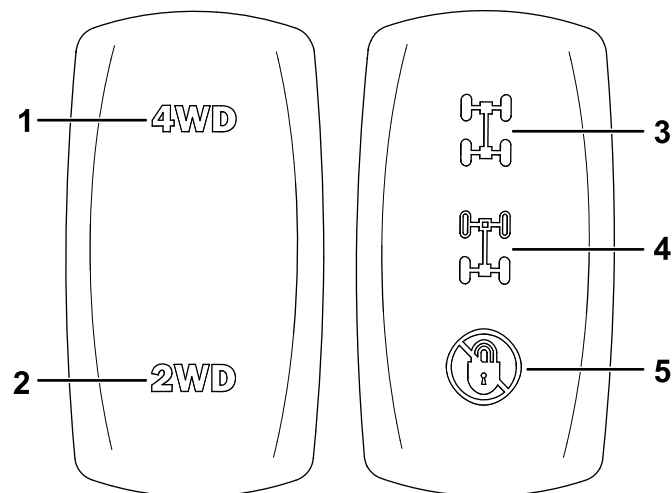

Figure 86
2. Press the 2-wheel drive/4-wheel drive switch (Figure 86) up to engage 4-wheel drive.
With your foot off the accelerator pedal, disengage 4-wheel drive by pressing the 2-wheel drive/4-wheel drive switch to the down position (Figure 86).
2. Press the differential-lock switch to the mid position to engage the rear differential lock (Figure 86).
Press the differential-lock switch to the up position to engage the front and rear differential locks (Figure 86).
With your foot off the accelerator pedal, disengage the differential lock(s) by pressing the differential-lock switch to the down position (Figure 86).